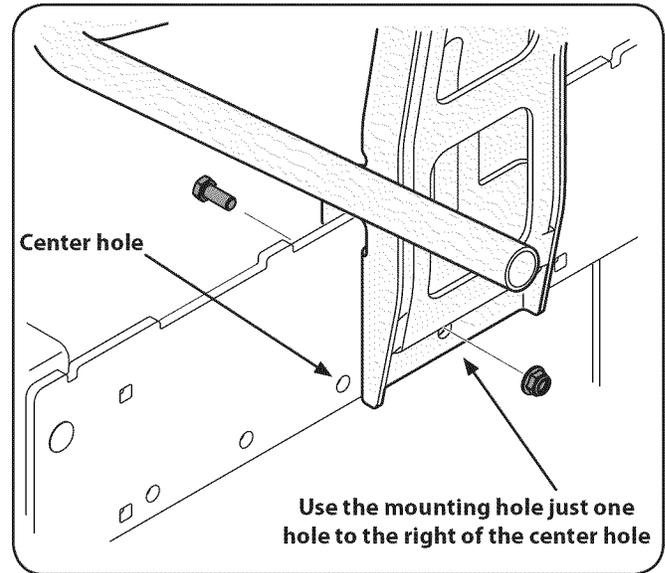

Figure 4-6
3. Secure the hanger assembly to the mounting assembly using a 5/16" bolt and flange nut packed in with this upright bagger support. Use the mounting hole to the right of the center hole, as pointed out in Fig. 4-6.